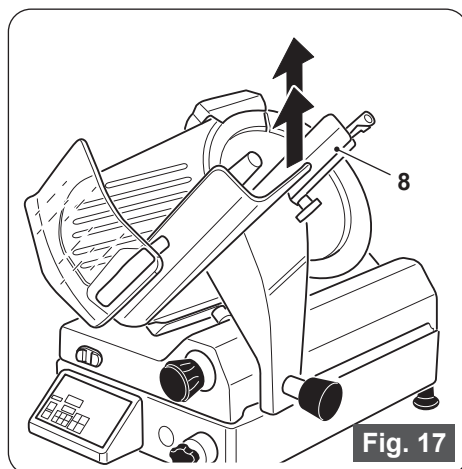

Fig. 17
- Lift the tray (8) and remove it (Figure 17).
**The product tray (8) is particularly heavy, work carefully, possibly with two operators.**